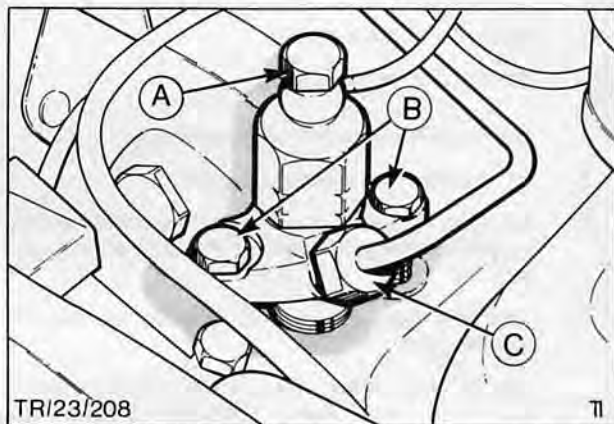

Fig. 56. No. 1 injector assembly
4. Disconnect leak off pipe and fuel supply pipe, remove 2 bolts and detach injector, Fig. 56.